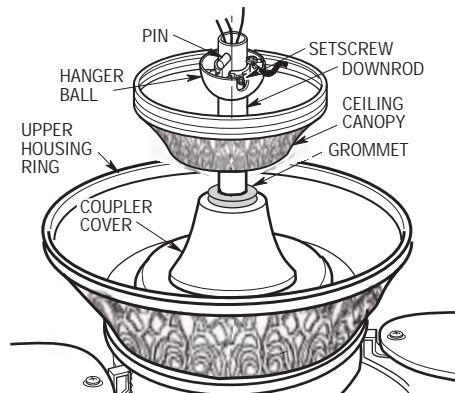

Figure 6
- 9. Make sure the grommet is properly installed in the coupler cover, then slide the coupler cover on the downrod until it rests on the motor and upper housing assembly (Figure 6).
- 10. Place the ceiling canopy over the downrod. Then reinstall the hanger ball (Figure 6) on the downrod as follows. Route the three 80" motor leads through the hanger ball and slide the hanger ball over the downrod. Position the pin through the two holes in the downrod and align the hanger ball so the pin is captured in the groove in the top of the hanger ball. Pull the hanger ball up tight against the pin and securely tighten the setscrew in the hanger ball. A loose setscrew could create fan wobble.